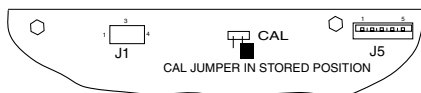
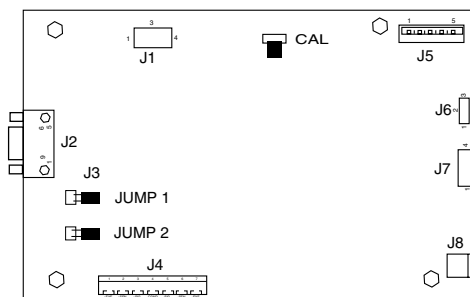

Figure 3-8. CAL Jumper Shown with LFT ON.
Figure 3-9. CAL Jumper Shown with LFT OFF.
4. Refer to Figures 3-8 and notice the position of the CAL jumper, this is shown with LFT operation ON. To un-lock the menus, remove the jumper and position it on both pins as shown in the Figure 3-9.